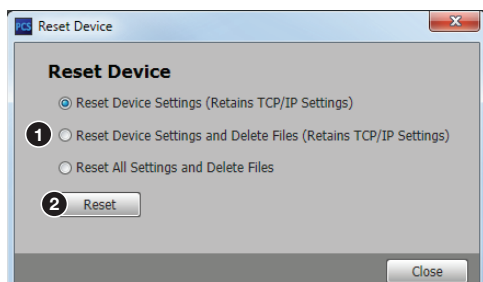

Figure 39. Reset Device Dialog Box
To reset the device select the applicable radio button (see figure 39, ①) and click the **Reset** button (②).